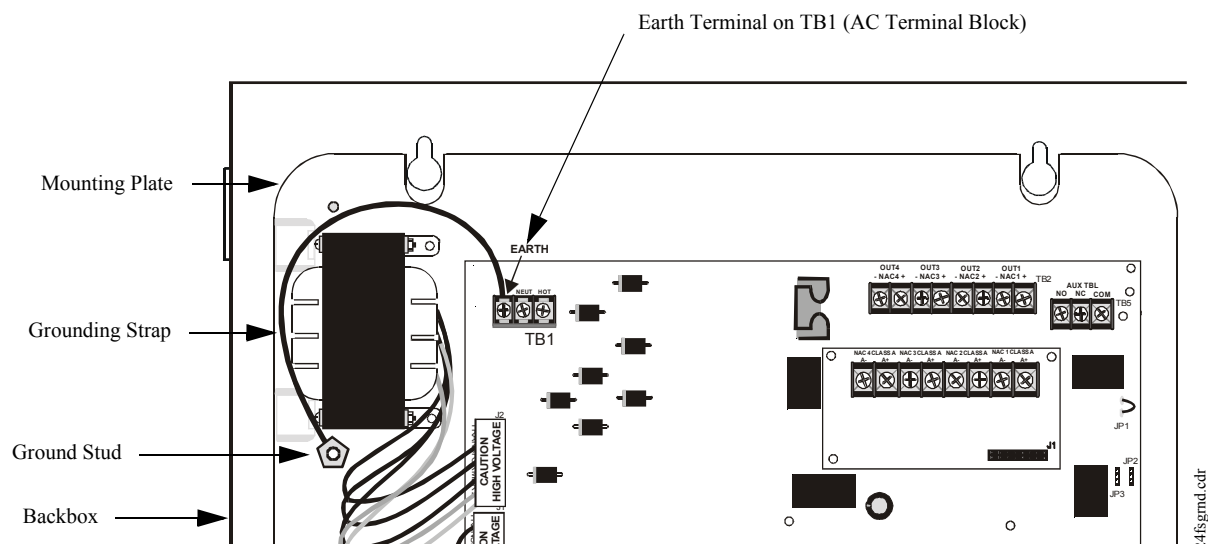

Figure 2.1 Grounding Strap
8. **IMPORTANT!** Make certain to connect the supplied *grounding strap* between the *Earth* terminal on TB1 (AC Terminal Block) of the main circuit board and the chassis *ground stud* as illustrated in Figure 2.1: